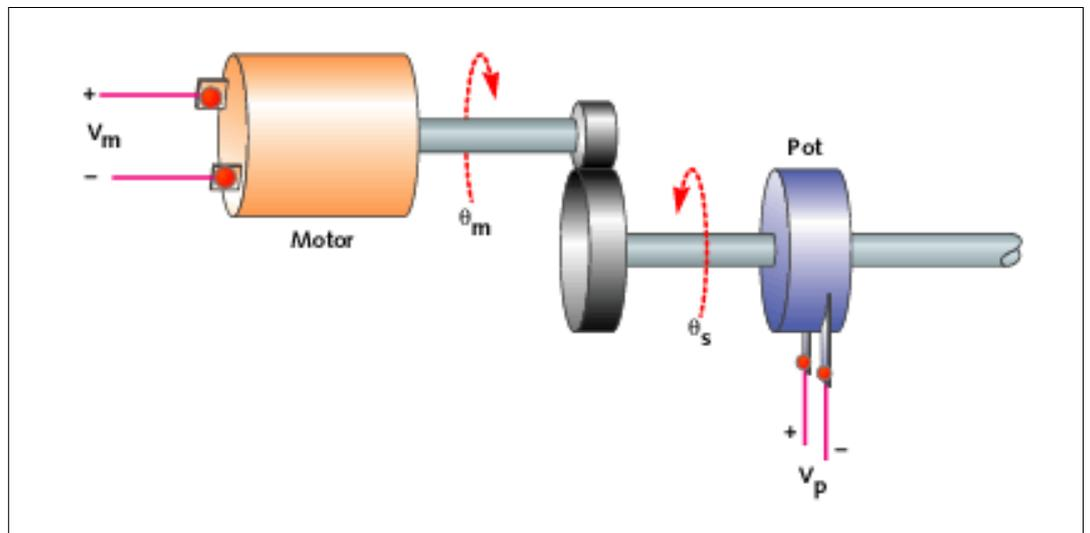
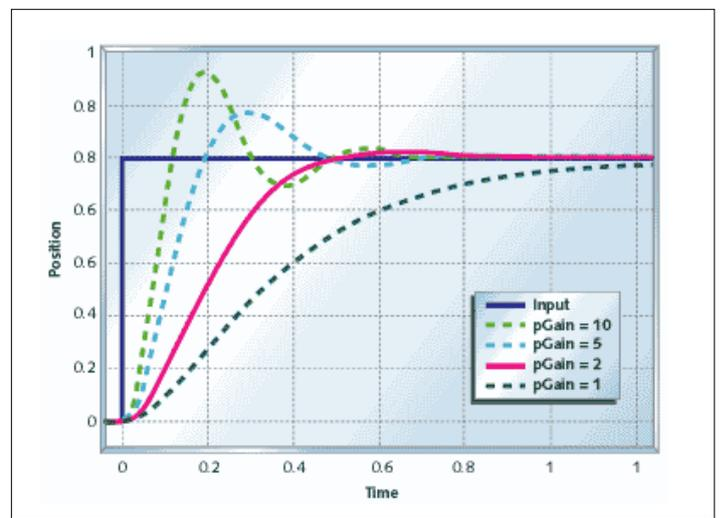
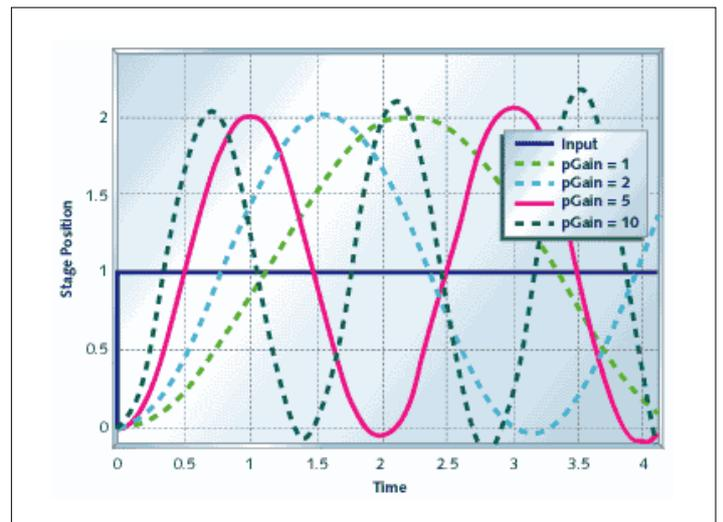
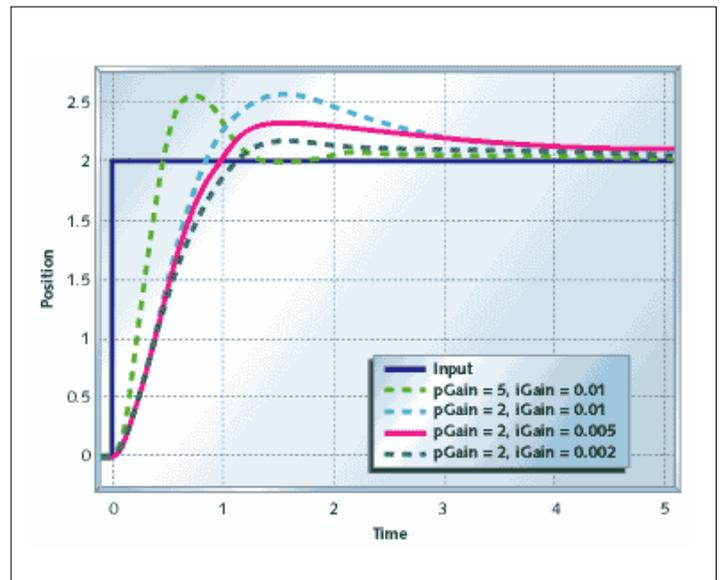

Figure 2
Figure 8
Figure 9
Figure 13
carriage on a printer, or a throttle mechanism in an automobile cruise control system, or almost any other moderately precise position controller. **Figure 2** shows a diagram of such a system. The motor is driven by a voltage that is commanded by software. The motor output is geared down to drive the actual mechanism. The position of this final drive is measured by the potentiometer.
**Figure 8** shows what happens when you add proportional feedback to the motor and gear system. For small gains ( $k_p = 1$ ) the motor goes to the correct target, but it does so quite slowly. Increasing the gain ( $k_p = 2$ ) speeds
The motor and gear start to overshoot with high gains because of the delay in the motor response. If you look back at Figure 2, you can see that the motor position doesn't start ramping up immediately. This delay, plus high feedback gain, is what causes the overshoot seen in Figure 8. **Figure 9** shows the response of the precision actuator with proportional feedback only. Proportional control obviously doesn't help this system. There is so much delay in the plant that no matter how low the gain is, the system will oscillate. As the gain is increased, the frequency of the output will increase but the system just won't settle.
**Figure 13** shows why we use an integral term. The integrator state "remembers" all that has gone on before, which is what allows the controller to cancel out any long term errors in the output. This same memory also contributes to instability—the controller is always responding to
**Figure 13** shows the motor and gear with proportional and integral (PI) control. Compare this with **Figures 8** and **11**. The position takes longer to settle out than the system with pure proportional control, but it will not settle to the wrong spot.
motor/controller of Figure 13, and limited the motor drive to  $\gamma 0.2$ . Not only is controller output much greater than the drive available to the motor, but the motor shows severe overshoot. The motor actually reaches its target at around five seconds, but it doesn't reverse direction until eight seconds, and doesn't settle out until 15 seconds have gone by.